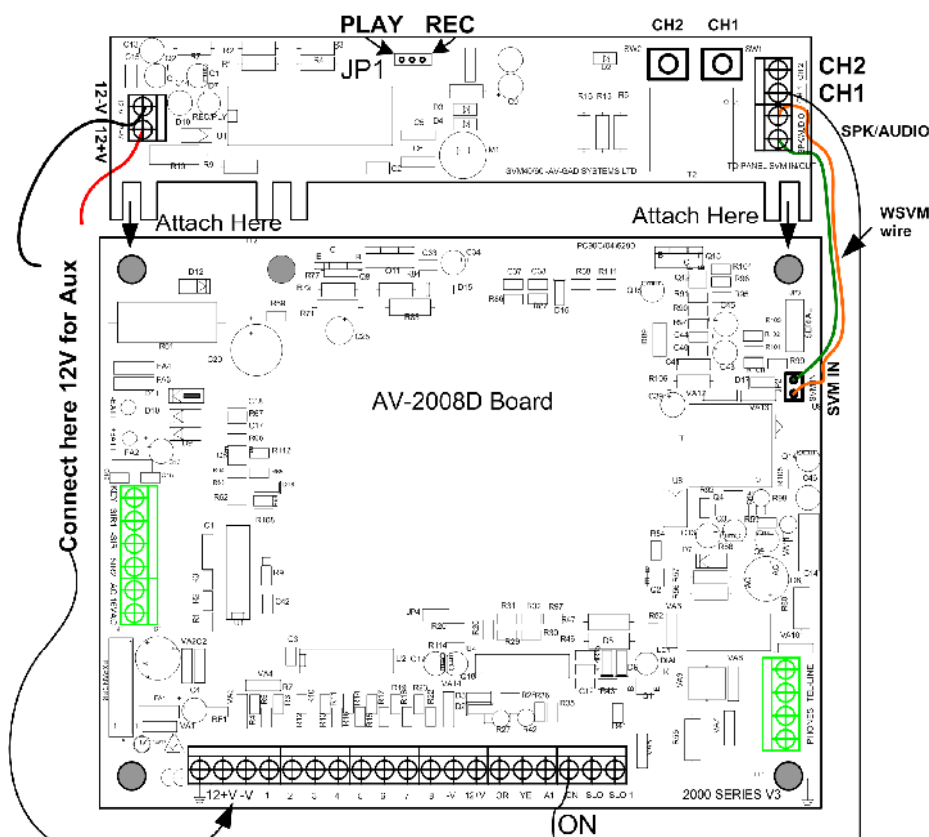

Figure 1: SVM-40 connected to AV-2008 Alarm Panel
3. Speaker terminal (no polarity) is the audio source. Connect supplied two wires from SP/AUDIO terminals to SVM IN in the alarm panel (refer to fig.1).